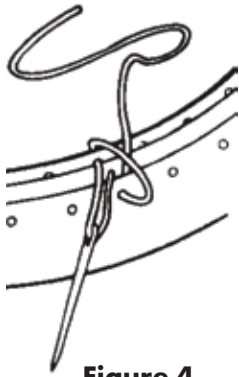

Figure 4
4. Use one needle. Insert the threaded needle between the edges of the cover pushing the needle through a rear hole leaving three inches of lacing to tie at the finish as shown in figure 4. Then bring the needle over the rear